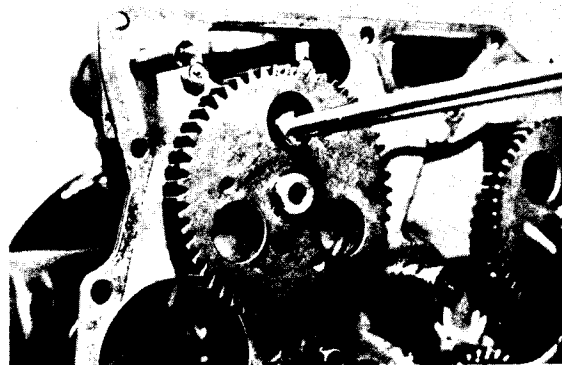

Figure 78
C. Remove the stopper bolt (Fig. 78).